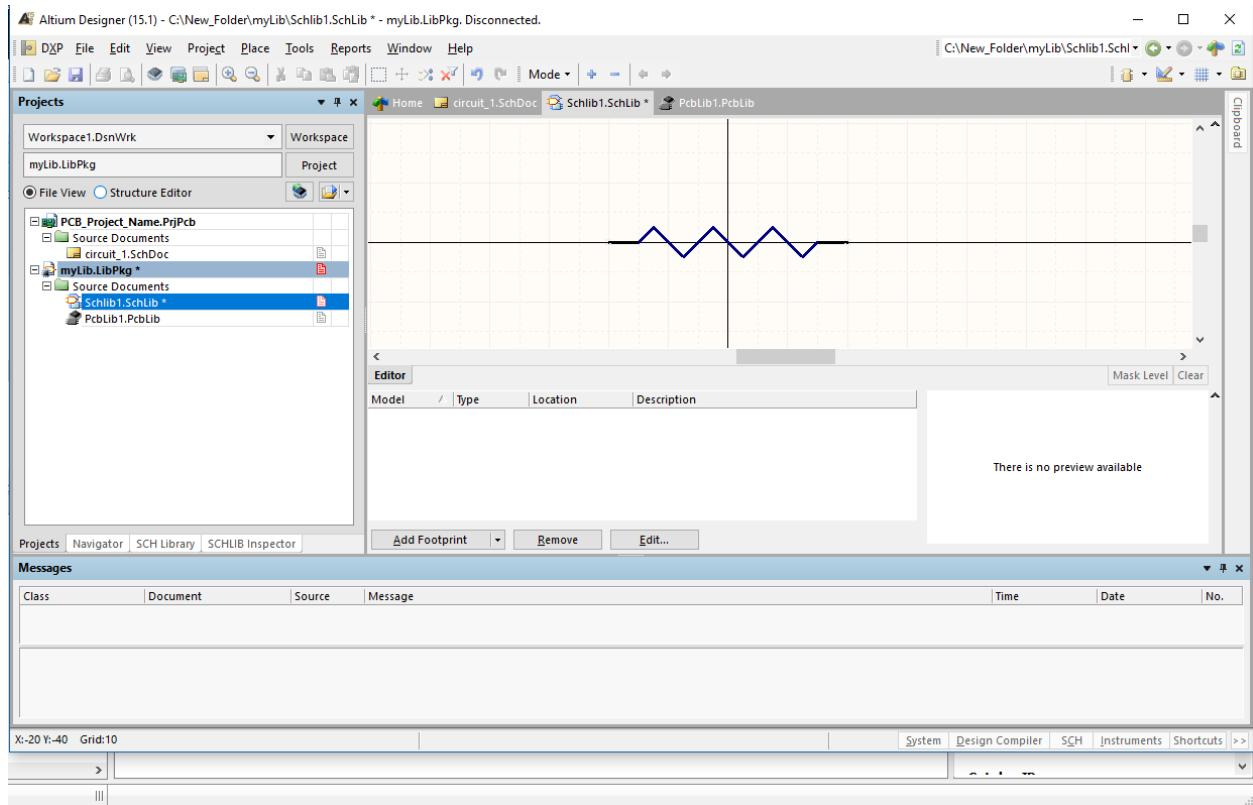
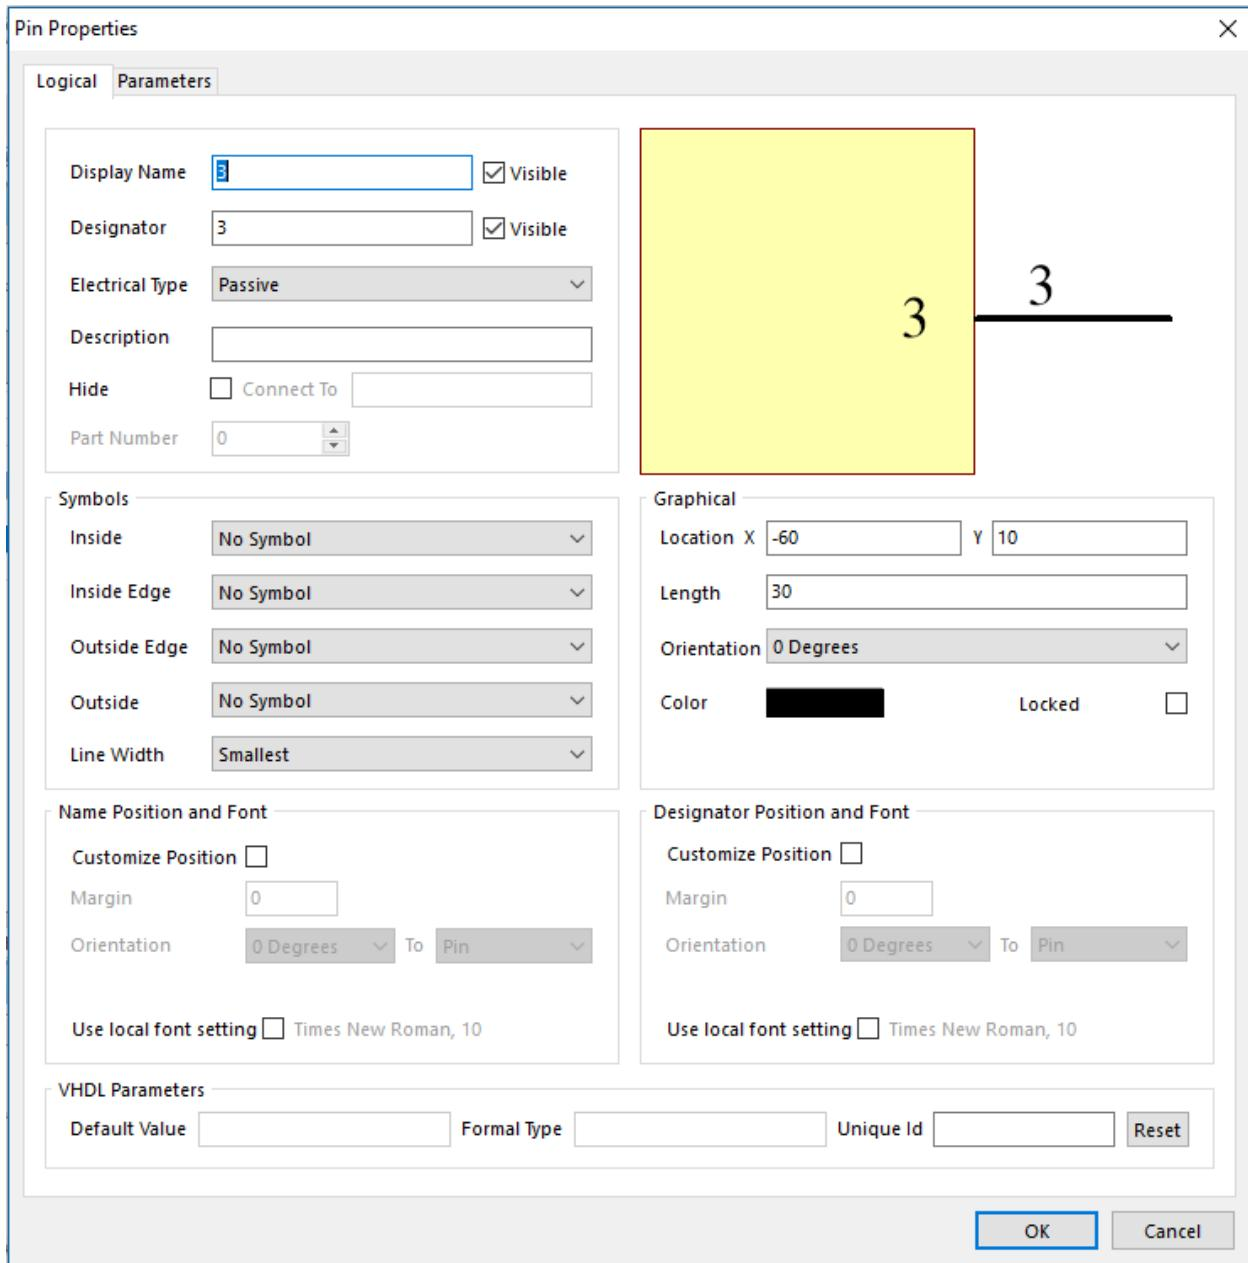

Figure 26: Altium schematic (SCH) library open with an drawn resistor symbol.
Figure 27: Altium Pin Properties.
16. Figure 26 shows the generated open schematic library with two placed pins and blue line drawn in form of a resistor. to place the pins you press P than P and than **TAB** to edit the pin to your needs, which is shown in Figure 27. In this dialog settings of number of the pin which is used to link the pin to the footprint can be made as well as visual properties. So take some time and maybe try one or another thing out by changing it and placing a pin. To place a line hit p to open the place menu and press L or chose Line... as by the pin by hitting **TAB** the line properties dialog pops up and the lane can be changed according to your need, not shown in figure.